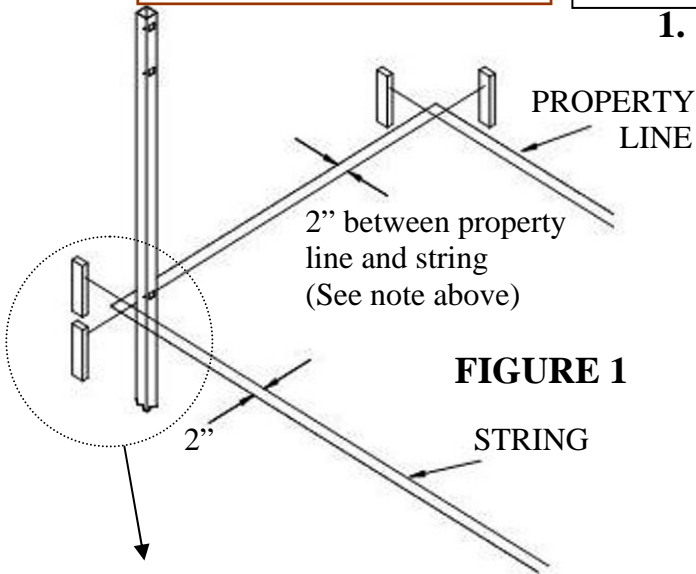

FIGURE 1
- 1.1. First stake out the area and run strings around as shown in Figure 1. Gates need to be located on level ground.